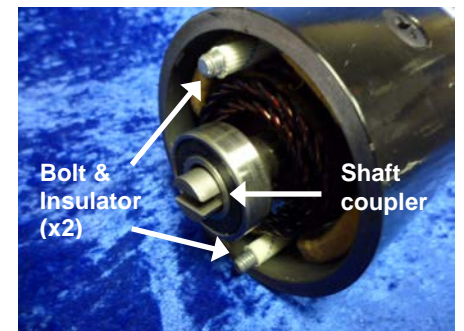

Figure 24 Motor showing bolts, insulators, and shaft coupler
- 21) Inspect the motor to make sure the new bolts have the insulation tubes over them. (See Figure 24)